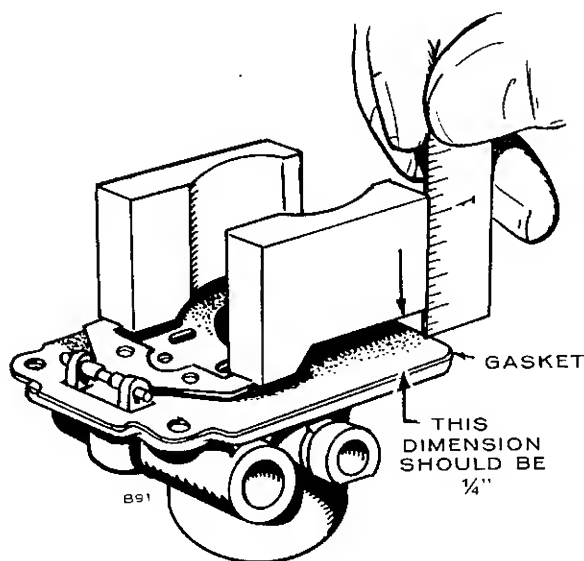

FIGURE 19. CARBURETOR FLOAT SETTING
3. With the carburetor casting inverted and the float resting lightly against the needle and seat, there should be 1/4-inch clearance between the bowl cover gasket and the free end of the float (side opposite needle and seat). See Figure 19.